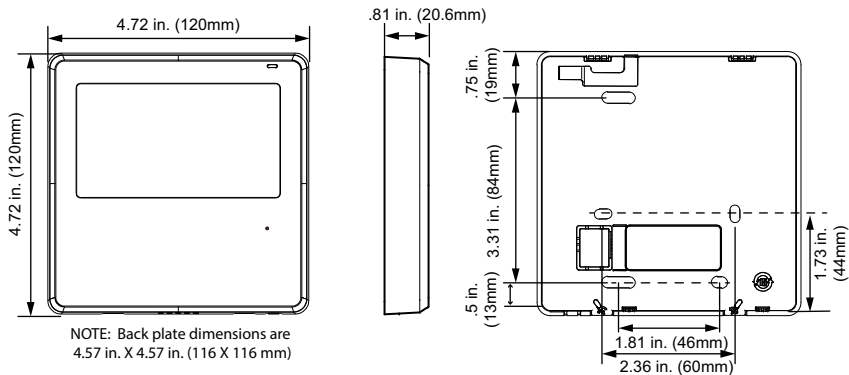

Fig. 2 – Structural Dimensions
- Insert a slot screwdriver into the slots in the lower part of the wired controller (2 places), and remove the upper part of the wire controller (see Fig. 2).